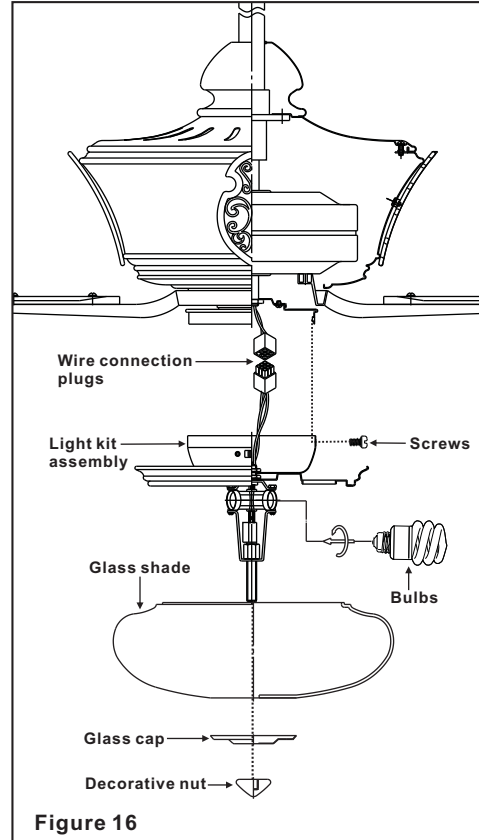

Figure 16
2. Carefully push all wires back into the switch housing, then install the light kit assembly onto the mounting plate with 4 screws provided. Be sure to tighten all screws. (Fig. 16)
3. With the power off, insert the 13 watts compact fluorescent bulbs (included) into the light kit sockets. **NOTE: CFL bulbs are NOT dimmable.** (Fig. 16)
4. Place glass shade over the light kit and secure it with the glass cap and decorative nut provided. **DO NOT OVER TIGHTEN.** (Fig. 16)